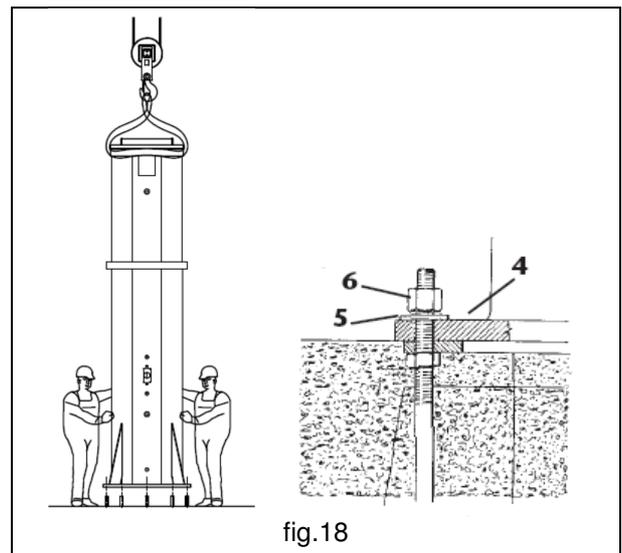

fig.18
3. Erect the column by lifting it using lifting devices suitable for the purpose, i.e. bridge crane or mobile crane and the relative slings with capacity and specifications adequate for the weight to move. (fig.18)
4. Mount the column on the foundation frame lining up and inserting the holes of the base plinth **4** on the threaded portion of the bolts protruding from the plinth, then anchoring them with the nuts **6** after placing the relative flat washers **5** (fig. 18)